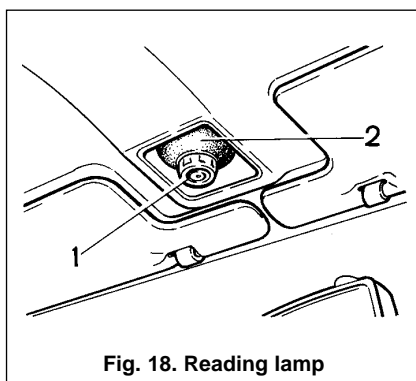

Fig. 18. Reading lamp
The reading lamp is intended for spotlighting individual objects. To switch on the reading light, twist lamp casing ring 1 (Fig. 18) clockwise. The lamp (2) beam axis can turn over 30° in all directions. To switch off the reading light twist lamp casing ring counter-clockwise.